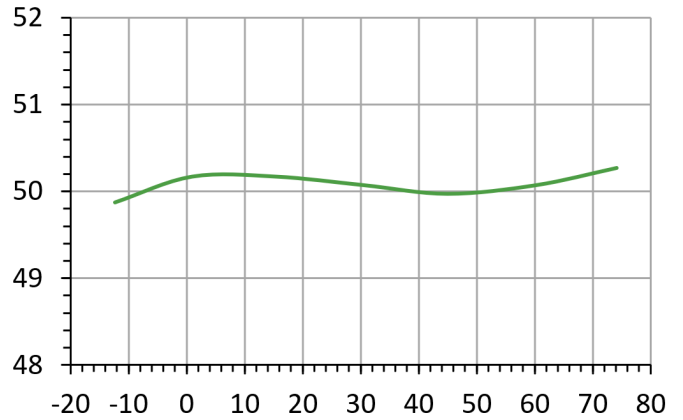

Fig. 20: Eye Crossing (%) vs Temp (°C) at 2.5Gb/s
- Eye Crossing is calibrated at 2.5 Gbps with a 0.25 Vpp PRBS7 input pattern and 50% mark space density. The eye crossing of the input signal must be 50% +/- 0.1%. Crossing Point is measured using a LeCroy SDA 100G sampling oscilloscope, SE-50 sampler, and Anritsu 41KC-20 attenuator. No cables are inserted between the amplifier output, the attenuator, and the sampler. Eye Crossing accuracy is guaranteed at 40° C case temperature. See Figure 20 for typical temperature variation.